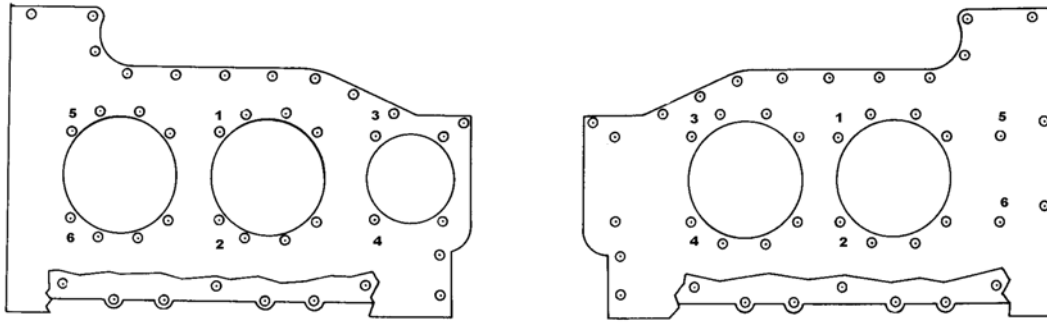

Figure 3. Final Cylinder Installation Torquing
8. Torque the 1/2-20 through bolt nuts to their final torque specified in Table 1 in the sequence shown in Figure 3, “Final Cylinder Installation Torquing”, on page 3.